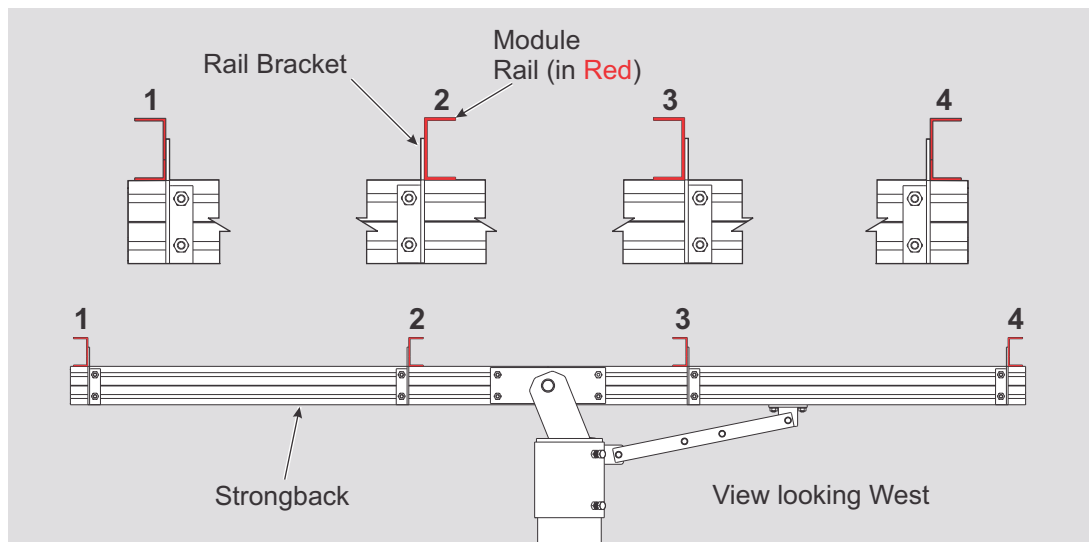
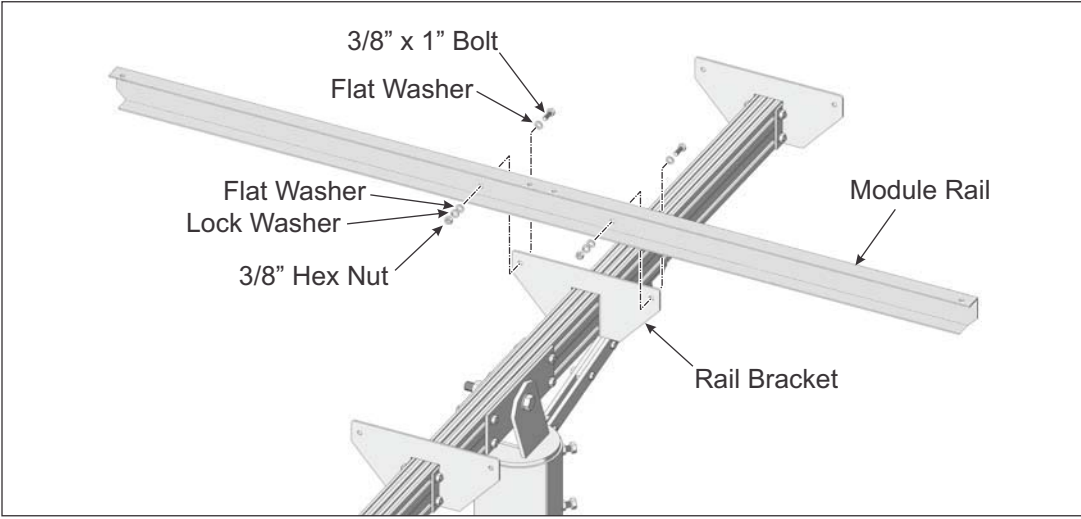

Figure 5-1: Orientation of Module Rails to Rail Brackets
Figure 5-2: Installing Module Rails to Rail Brackets
Module Rail orientation is dependent on location. Follow these instructions carefully for the correct orientation. (See Figure 5-1)
A. Referring to Figure 5-1 for orientation of the Module Rails, position the first section of Module Rail on the Rail Bracket. Align the Module Rail mounting holes with the holes of the Rail Bracket and secure with 3/8" x 1" bolts and hardware. Finger-tighten for now. (See Figure 5-2)
- B. Continue in this manner and install all remaining Module Rails (three more) while following Figure 5-1 for proper orientation of the Rails to the Rail Brackets.